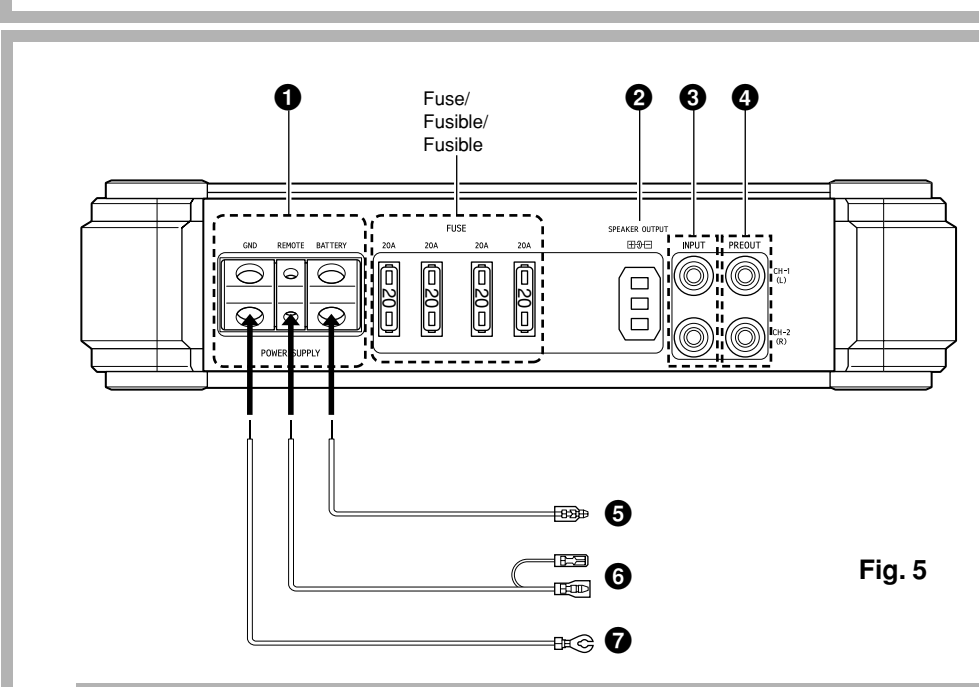
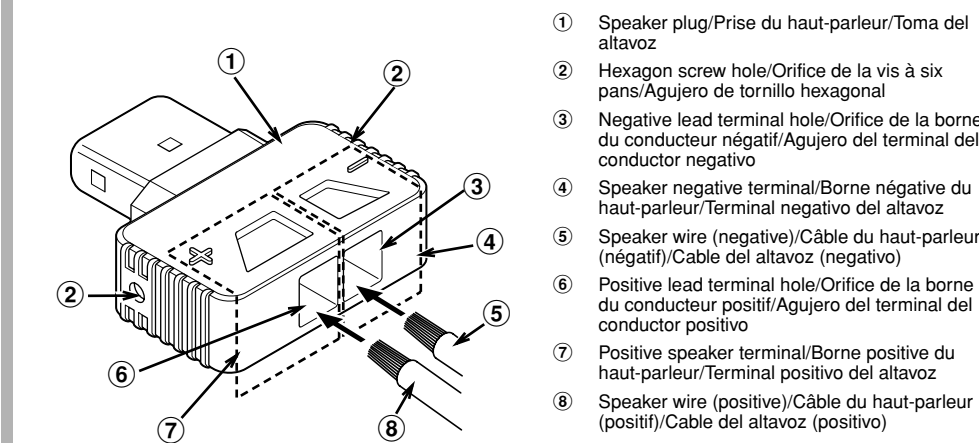

Fig. 5
Fig. 8
CONNECTIONS (Fig. 5 - Fig. 8)
- Insert fully the exposed conductor of the speaker wire into the wire terminal hole. Refer to Fig. 8.
CONNEXIONS (Fig. 5 - Fig. 8)